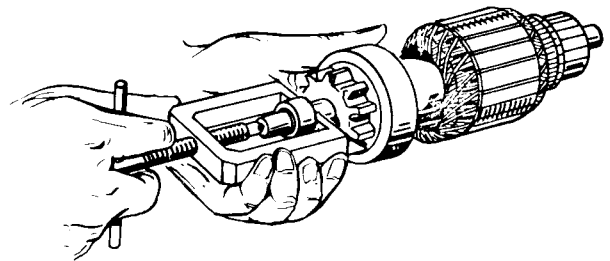

FIGURE 55
2. Install the overrunning clutch assembly, the ring and the stop ring on the armature shaft. Drive pinion stopper far enough on shaft to install stop ring. Then using a puller (Figure 55) pull stopper against ring.